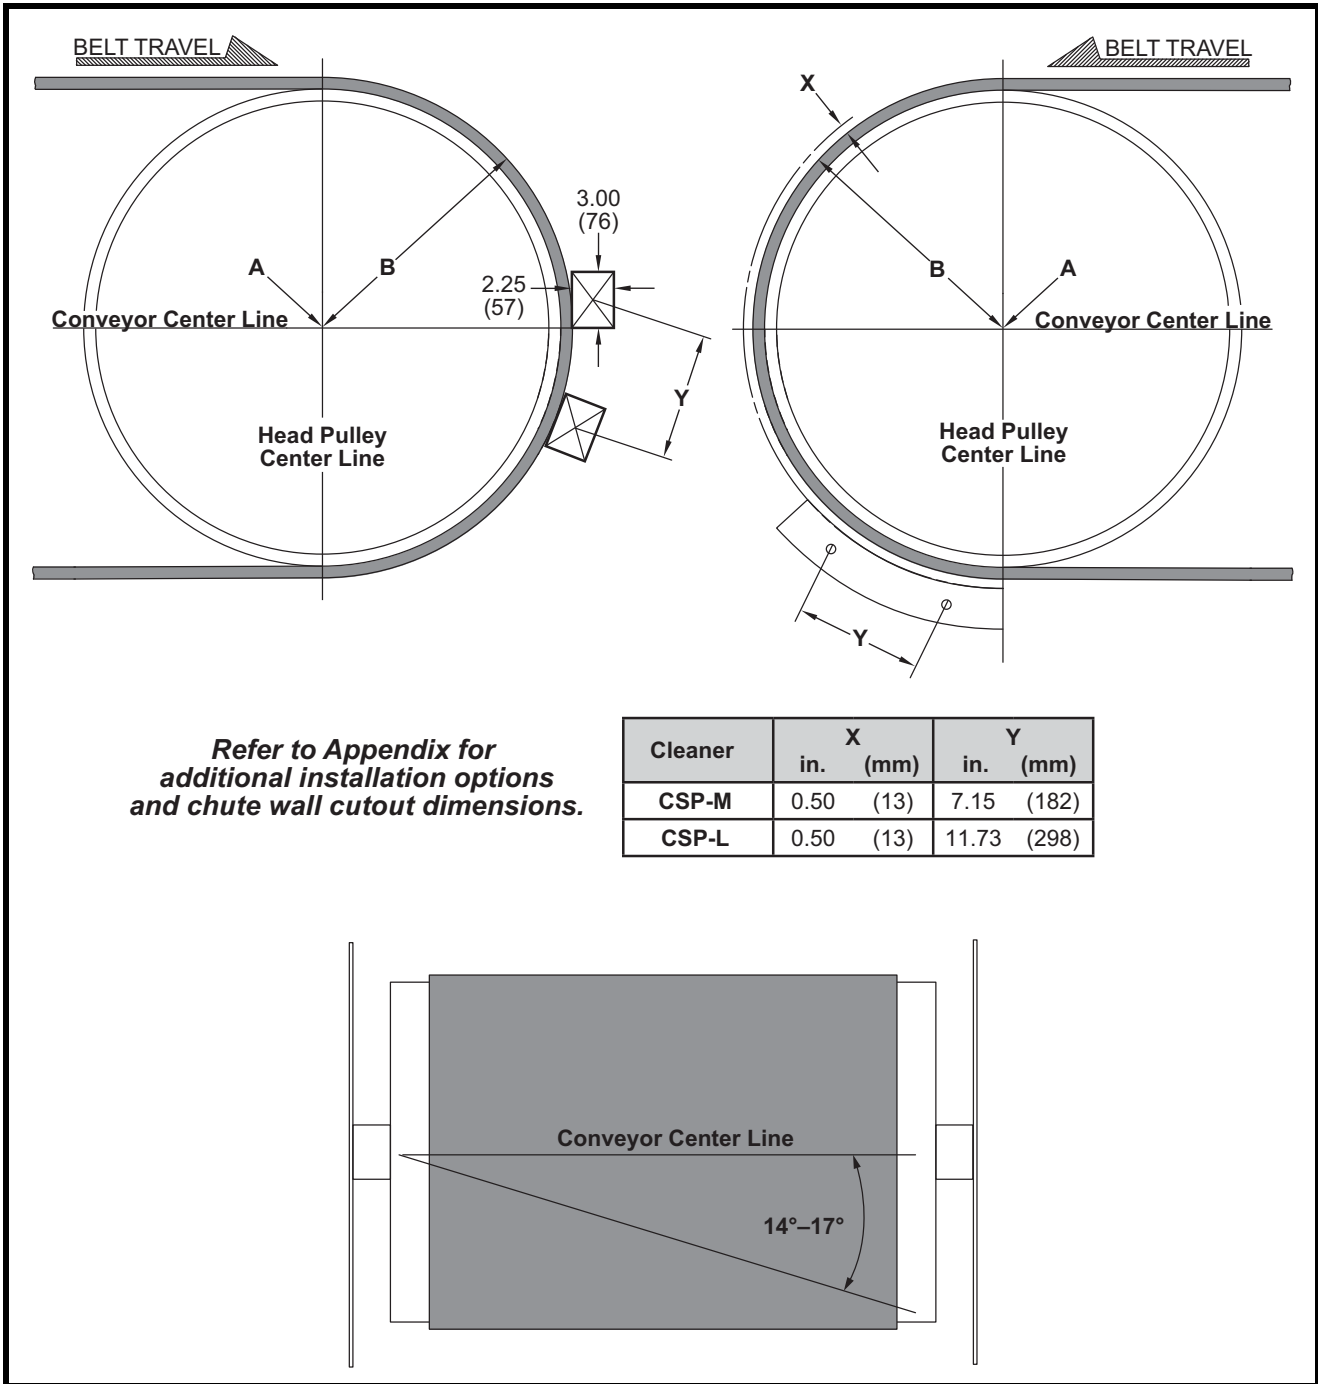

Figure 3. Belt Cleaner Location & Chute Wall Cutouts
1. On both sides of chute, find pulley center point (A).
2. Measure radius of head pulley including lagging and belt thickness (B). To this dimension, add dimension X from Figure 3.
3. On the far side of chute, start from center point (A), measure the total distance calculated in step 2 (B + X), and draw an arc on chute wall.
4. On the operator side of chute, start from center point (A), draw an arc on chute wall with a radius of (B).
- (1) Position fixed point bracket on far side chute wall as shown in Figure 3.
- (2) Mark bracket hole locations.
- (3) Drill or cut two 1/2-in. holes for screws in far side chute wall.
- (4) Mount fixed point bracket to inside of far side chute wall using countersunk screws (B) and nuts.
- (2) Weld bracket to chute wall. Weld completely around bracket. Do not skip weld.
- d. Install brackets (C) using nuts (D). Hand tighten nuts.
- e. Attach cleaner to far side bracket by inserting hex head screw and large flat washer (B) through cable hook (A) and fastening with flat washer and nut (C). Hand tighten nuts.
- b. Position weld plate as shown in Figure 3. The bottom of the cutout should be the conveyor centerline. The edge of the cutout should be tangent to the belt edge. Mark chute wall cutout. Refer to Appendix for CSP-S chute wall cutout location and dimensions.
- c. Mark second chute wall cutout as shown in Figure 3. Dimension Y is equal to the distance between mount holes on far side bracket.
- e. Center mounting brackets (A) on cutouts and weld to chute wall.
- f. Mount tensioner brackets (B) onto mounting bracket using nuts (C). Hand tighten nuts. Position top bracket with roller (D) in the upper position and bottom bracket with roller (D) in the lower position.
7. Mount tensioner (E) onto bracket using carriage bolts and nuts (F).
8. Position tensioner in desired location free from obstructions and tighten nuts (F).
9. Loosen nut (G) to the end of the threaded rod.
11. Route chain (H) through chute wall and tensioner bracket.
12. Pull chain into hook (I).